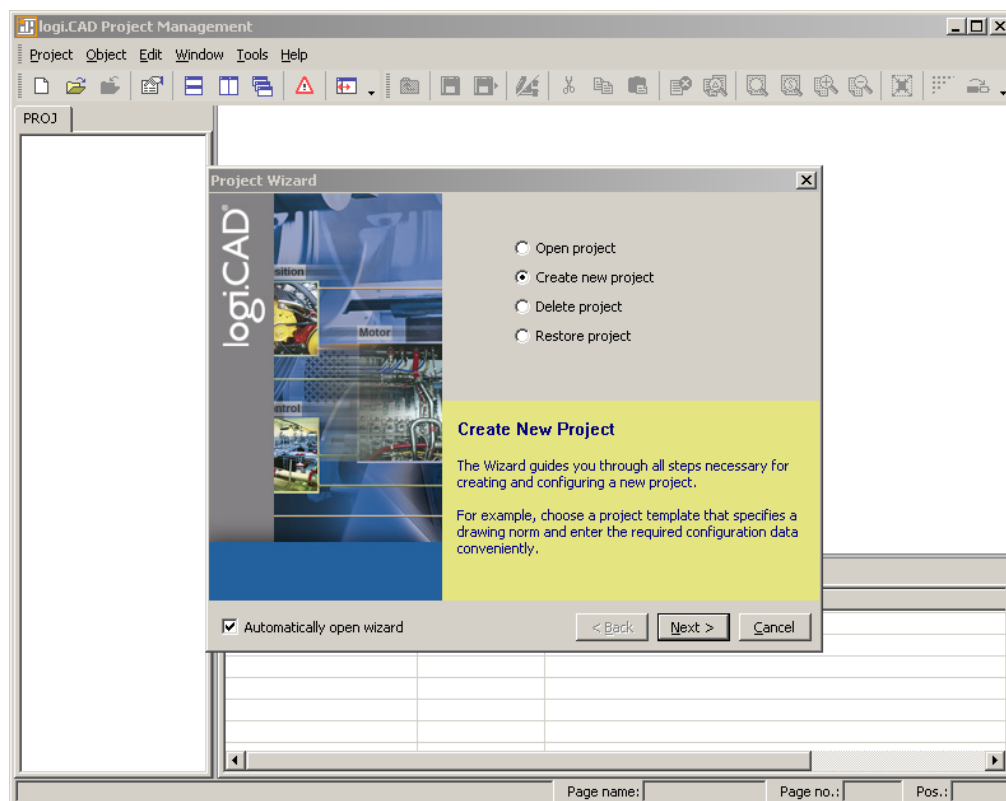

Figure 67: logiCAD project wizard
2. The project wizard starts automatically as shown in Figure 67.